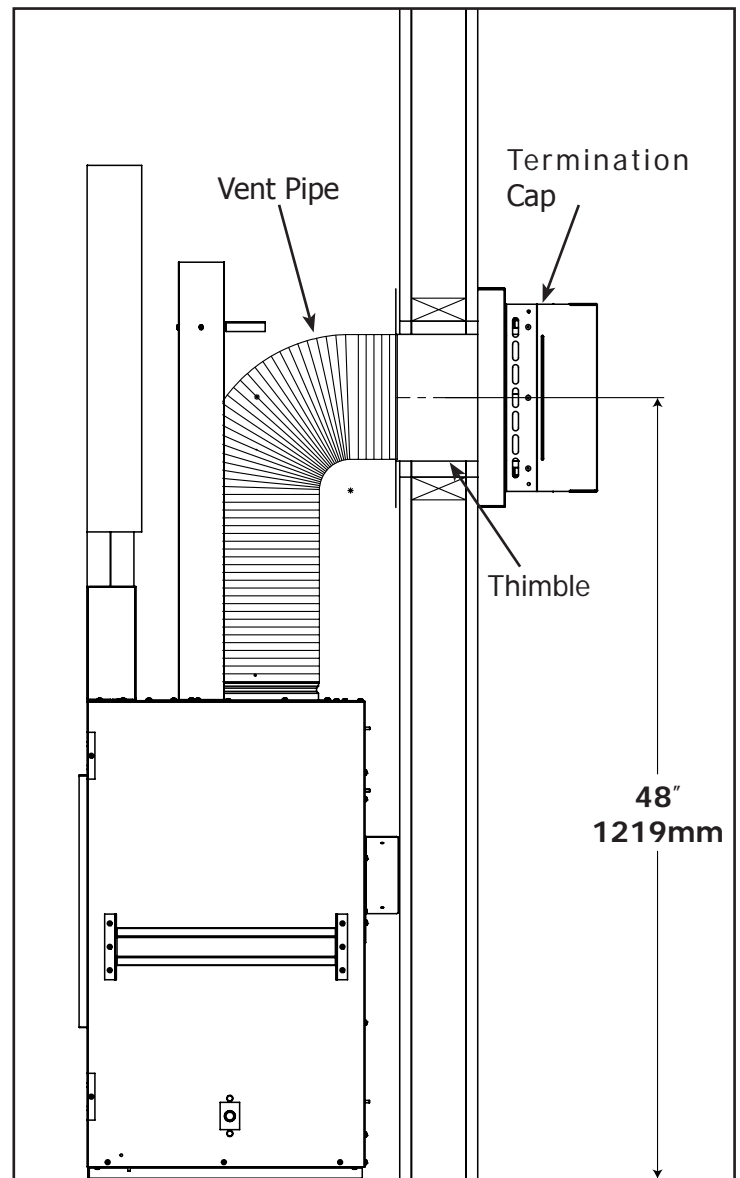

Figure 27. Minimum Vent Height
- Step 8.** Continue to add pipe sections until the height of the vent cap meets the minimum code requirements. Refer to Figure 27 and Table 7. Note that for steep roof pitches, the vent height must be increased. In high wind conditions, nearby trees, adjoining roof lines, steep pitched roofs, and other similar factors can result in poor draft, or down drafting. In these cases, increasing the vent height may solve the problem.
Table 7: Minimum 'H' for Figure 27.